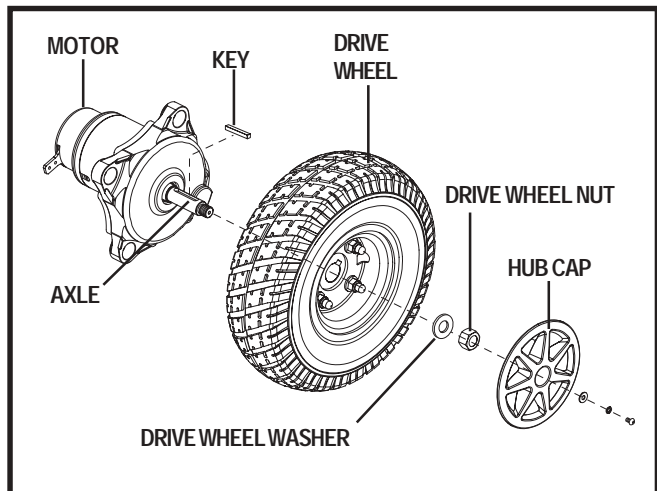

Figure 29. Jazzy Select Series Drive Wheel Removal
5. Remove the hub cap. See figure 29.
6. Remove the drive wheel nut and washer from the axle. See figure 29.